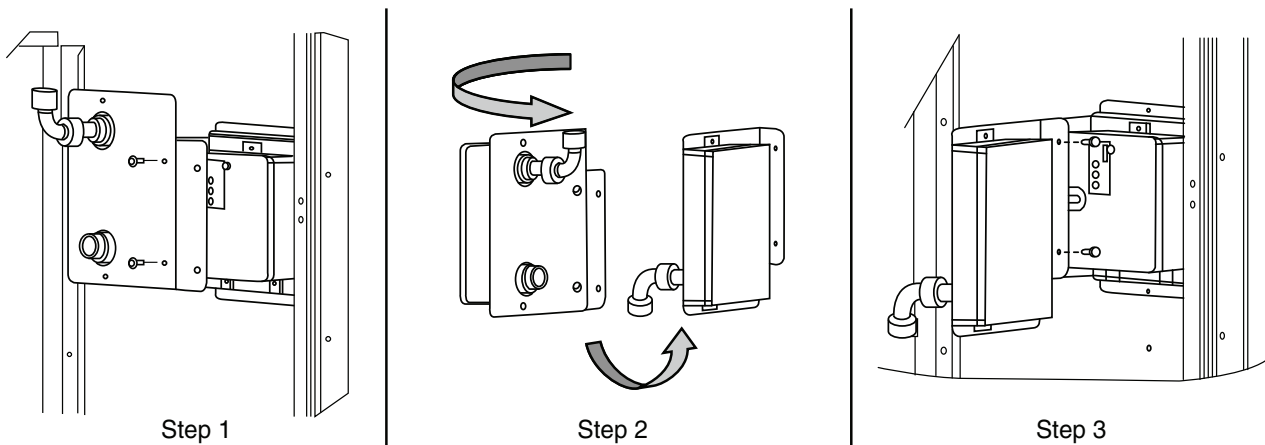

Fig. 53 — Completing Installation of Return Air Smoke Sensor
1. Unscrew the 2 screws holding the return-air smoke detector assembly. See Fig. 53, Step 1. Save the screws.
2. Turn the assembly 90 degrees and then rotate end to end. Make sure that the elbow fitting is pointing down. See Fig. 53, Step 2.
3. Screw the sensor and detector plate into its operating position using screws from Step 1. See Fig. 53, Step 3.